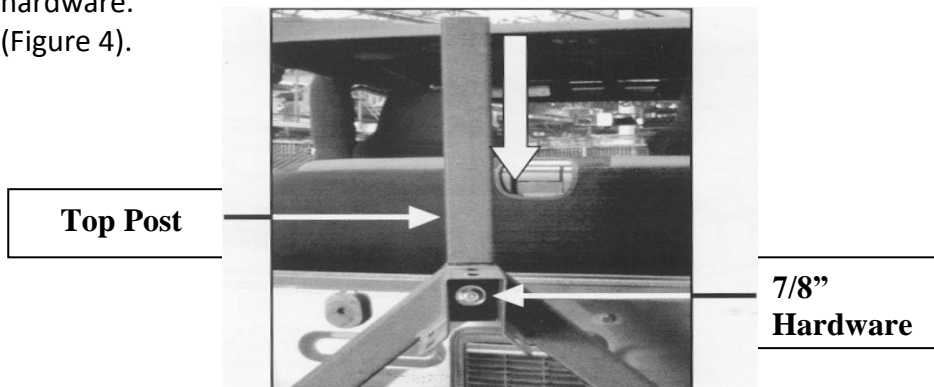

Figure 4
9. Locate the tire carrier top post, along with (1) 7/8" x 2 1/2" Hex Head Bolt, (2) 7/8" Flat Washer, and (1) 7/8" Lock Nut. Insert the top post into the top of the tire carrier and secure with the 7/8" hardware. (Figure 4).